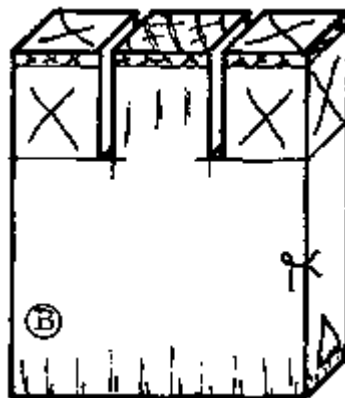
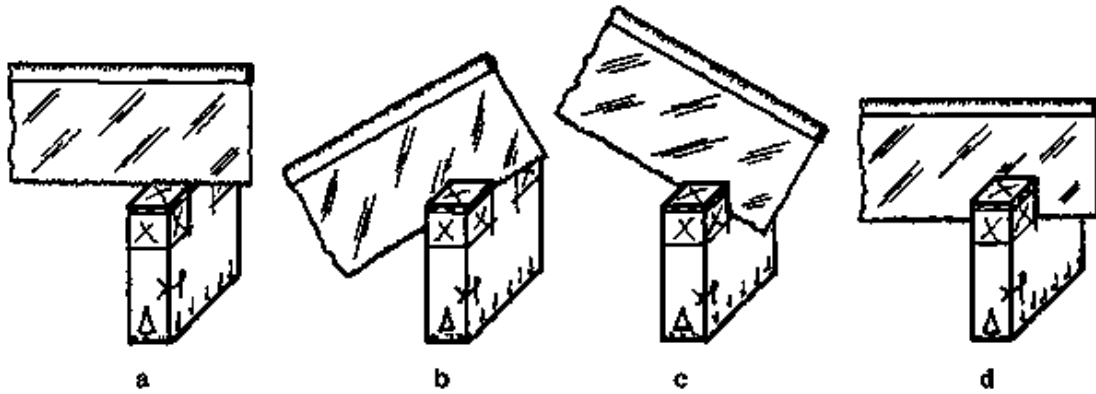

Fig. 8
Fig. 11
- Rip the sides of the tenon, sawing on the waste side of the line (Fig. 8). Cut in stages as shown in (Fig. 11, a, b, c, & d).